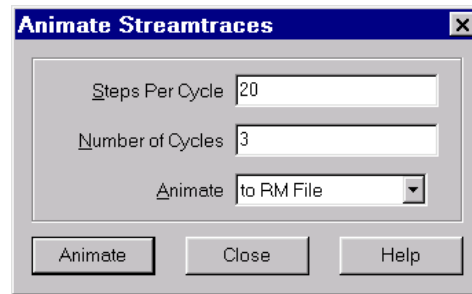

Figure 30-8. The Animate Streamtraces dialog.
3. From the Tool menu, choose Animate, then choose Streamtraces. The Animate Streamtraces dialog appears, as shown in Figure 30-8.